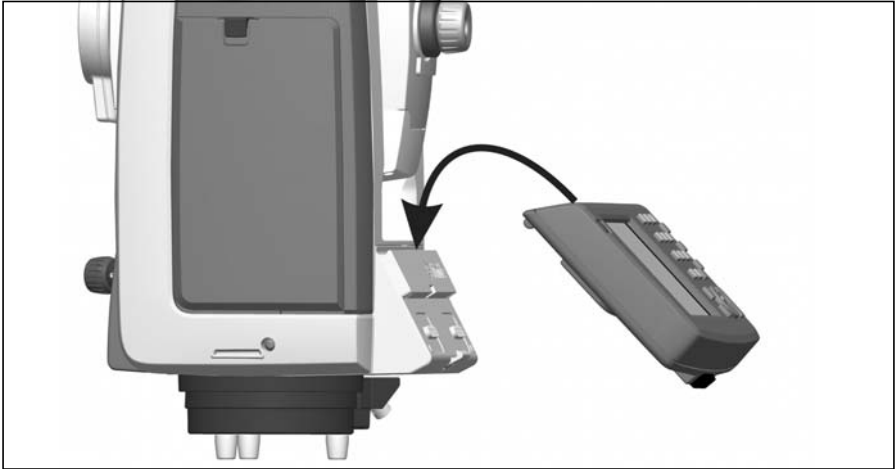

Figure 4.39 Attaching the Trimble CU to the instrument
1. Hook the top of the Trimble CU over the top edge of the panel attachment, Figure 4.39